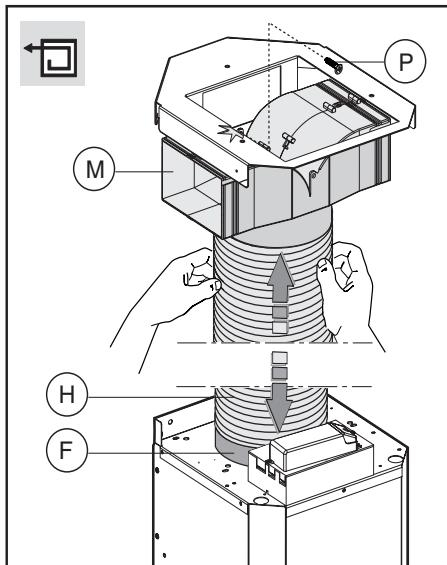
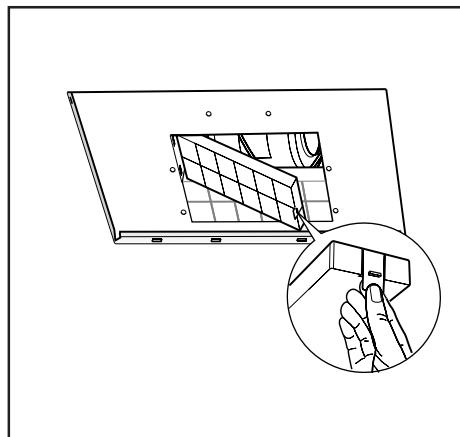

Fig.7
Fig.10
- Filter hood: connect the flexible hose to the baffle plate **M** and tighten screws **P** as indicated in (fig. 7), the active carbon filters should be fitted to the extraction assembly inside the hood (fig. 10). If the kit is not supplied, order it from your local dealer as an accessory.